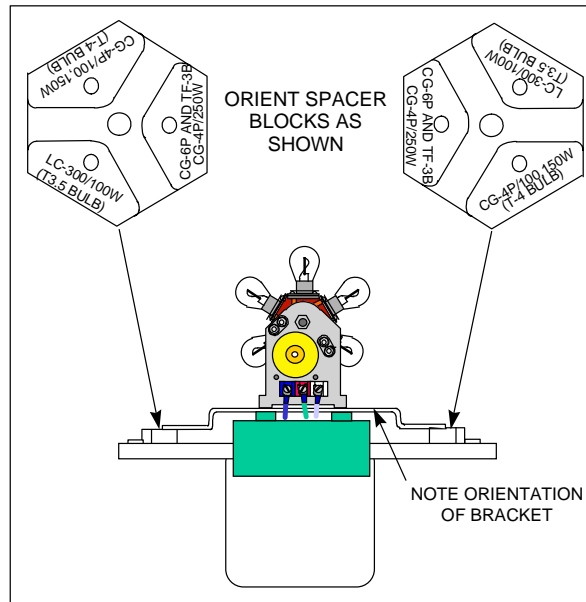

Figure 3-28
wiring kit must pass **under** the bracket, shown in Figure 3-28.
- g. Rotate the spacer blocks in the drum of the lantern to the correct lampchanger/lamp combination, as shown in Figure 3-28. Loosen the mounting screw and rotate the block until the selected surface aligns with the threaded hole in the back wall. Gently tighten the mounting screw.